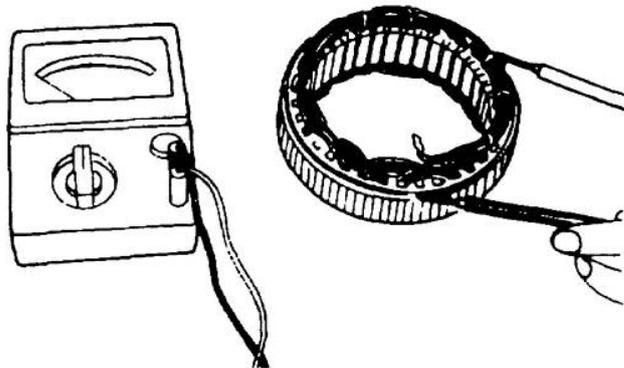

Figure 320 Earth Test of the Stator Coil
- g. Check for continuity across one of the stator coils and the stator core (Figure 320). If continuity exists, replace the coil assembly.